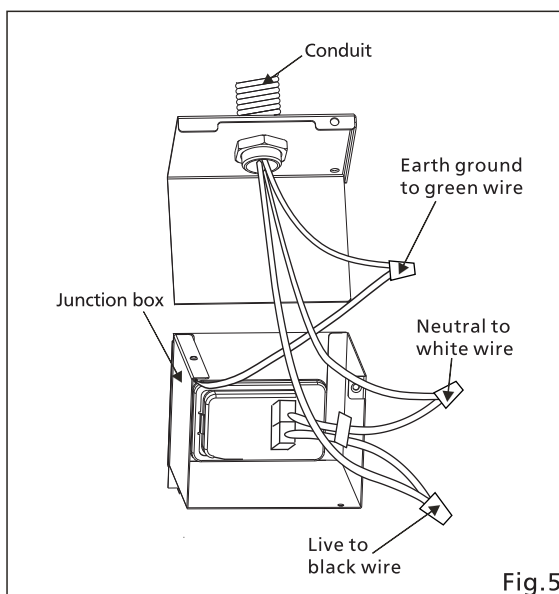

Fig.5
7. Refer to wiring diagram on page 6. Follow all the local electrical safety codes as well as the National Electrical Code (NEC). Using UL approved wire nuts, connect house power wires to ventilating fan wires. (Fig.5)